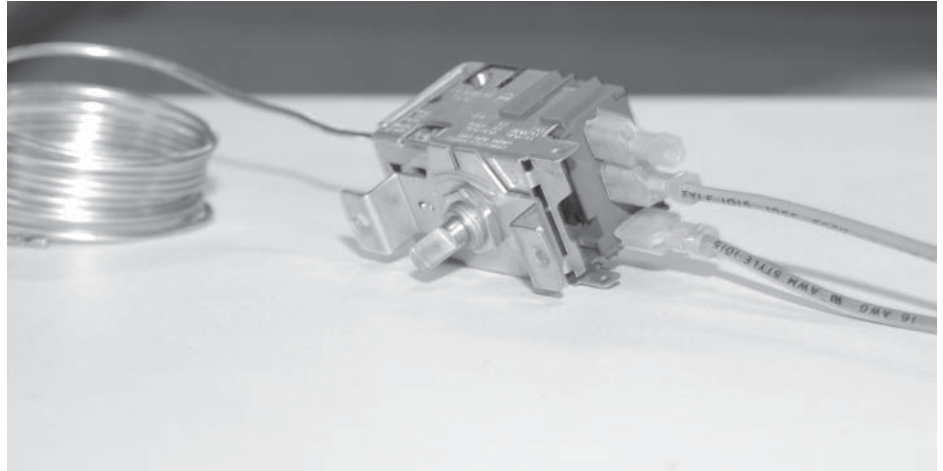

Figure 8. Temperature Control Leads
Replace existing temperature control with new Danfoss control in repair kit: (See Figure 8).
C. Connect other pink wire from old control to terminal #3 on new Danfoss temperature control. (See Figure 8 & 9).